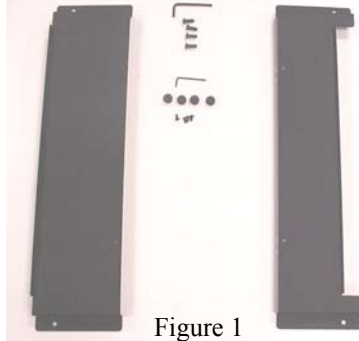

Figure 1
1. Using a 10-24 flat head cap screw inserted from chamfered hole side of bracket, secure mounting button, with chamfered hole of mounting button (larger surface) facing bracket, to bracket (four places) (see Figure 1).